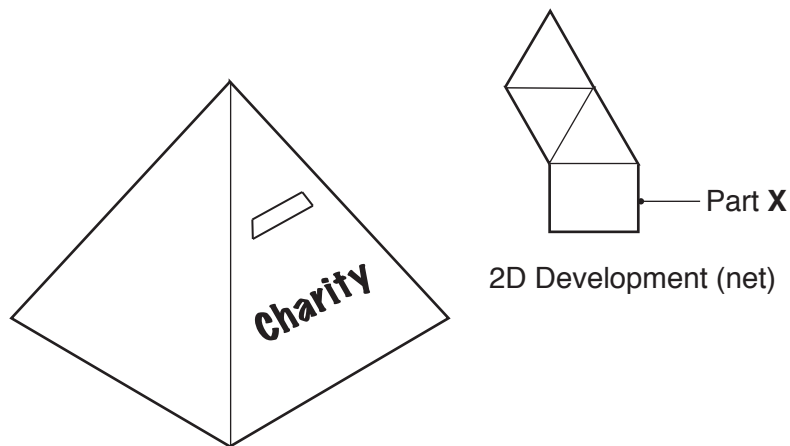

Fig. 5.1
- 5 Fig. 5.1 gives details of a free self-assembly charity collection box used to collect donations.